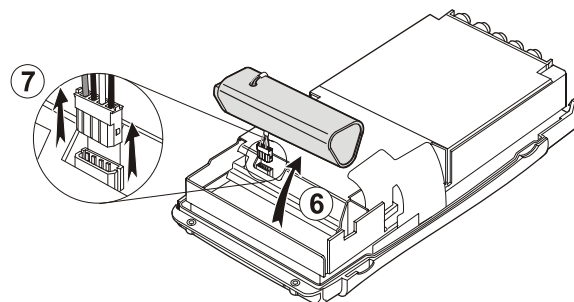

Figure 5-5. Removing the Battery Pack
6. Unplug and lift out the battery pack (Figure 5-5).